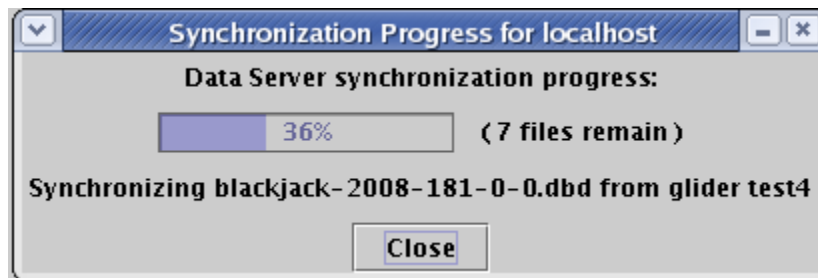

Figure 10-9. Synchronization Progress Dialog
5. After an initial pause, a progress dialog (similar to that shown in Figure 10-9) will appear. The dialog reports on the total number of glider data files currently being *synchronized* (i.e. parsed and stored) by Data Server, including those in the original 'Select files to transfer' dialog. Note that glider data files are never removed from Dock Server during synchronization, and closing the progress dialog does not terminate synchronization.